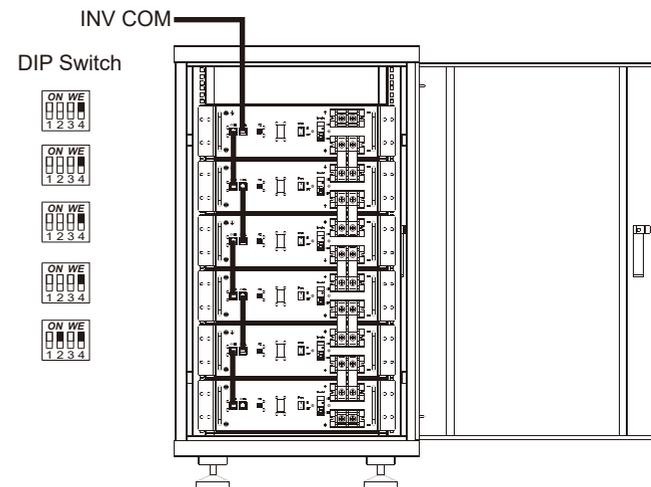

Figure 5 Communication cable connection & DIP Switch
Step 3: As shown in Figure 5, connect the communication cable, and dial code after the connection. Switch "2" for the bottom battery, and "4" for all other batteries.